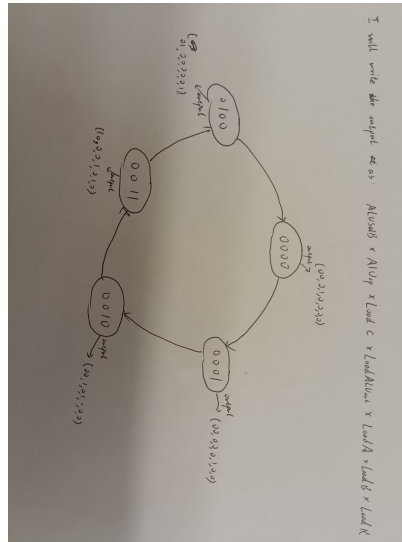

Figure 3: The state transition diagram for Part II
3. Draw the state transition diagram and include it in Figure 3.